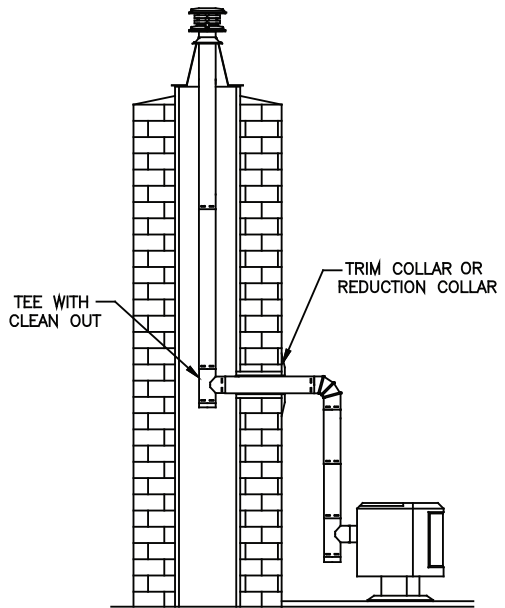

Figure 26
B. A Tee Section is installed at the bottom end of the vertical pipe **(Figure 26)**.